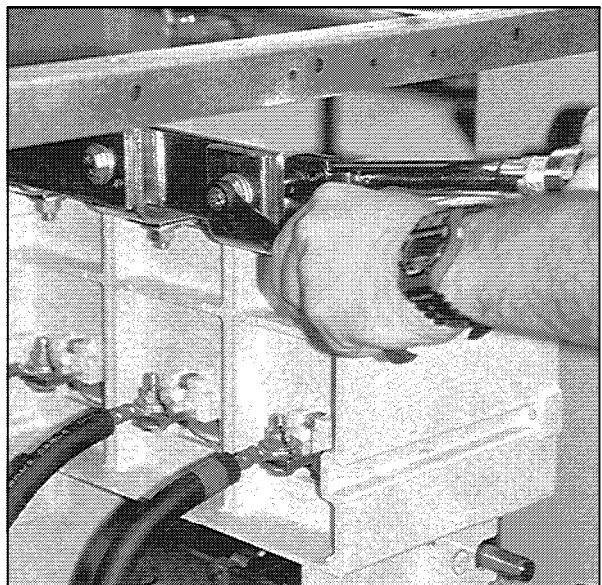

Fig. 33 Check Connections
□ Check connections - Although the equipment and devices have been completely tested at the factory, a final field check should be made that all electrical wiring and bus bar connections are correct and have not become loose in transportation (Fig. 33). Refer to MAINTENANCE Section for electrical joint specification.